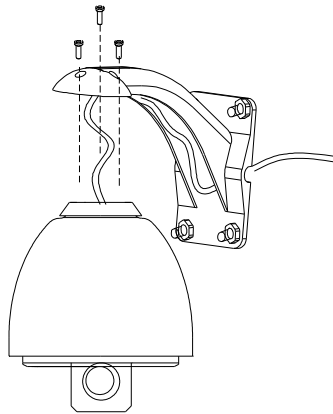

Figure 12
9. Install the aluminum alloy ball on the bracket (Figure 12).